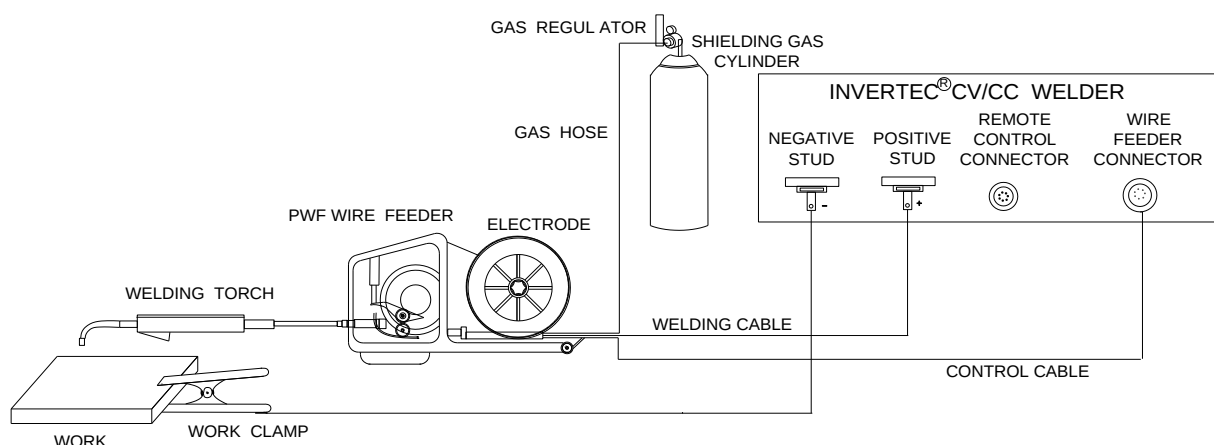

FIGURE A.3
1. PWF WIRE FEEDER (FIGURE A.3)